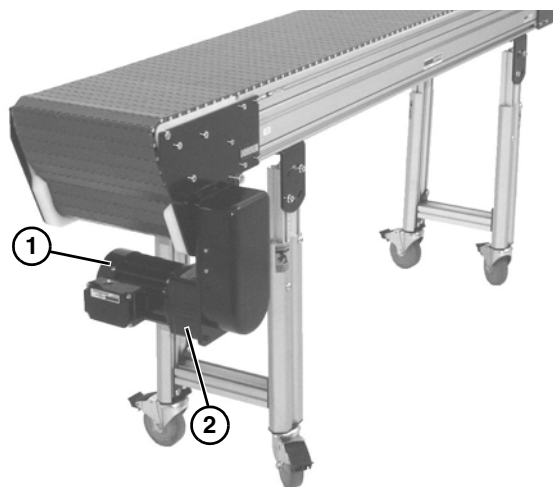

Figure 14
1. Attach the motor (Figure 14, item 1) to the gear reducer (Figure 14, item 2).